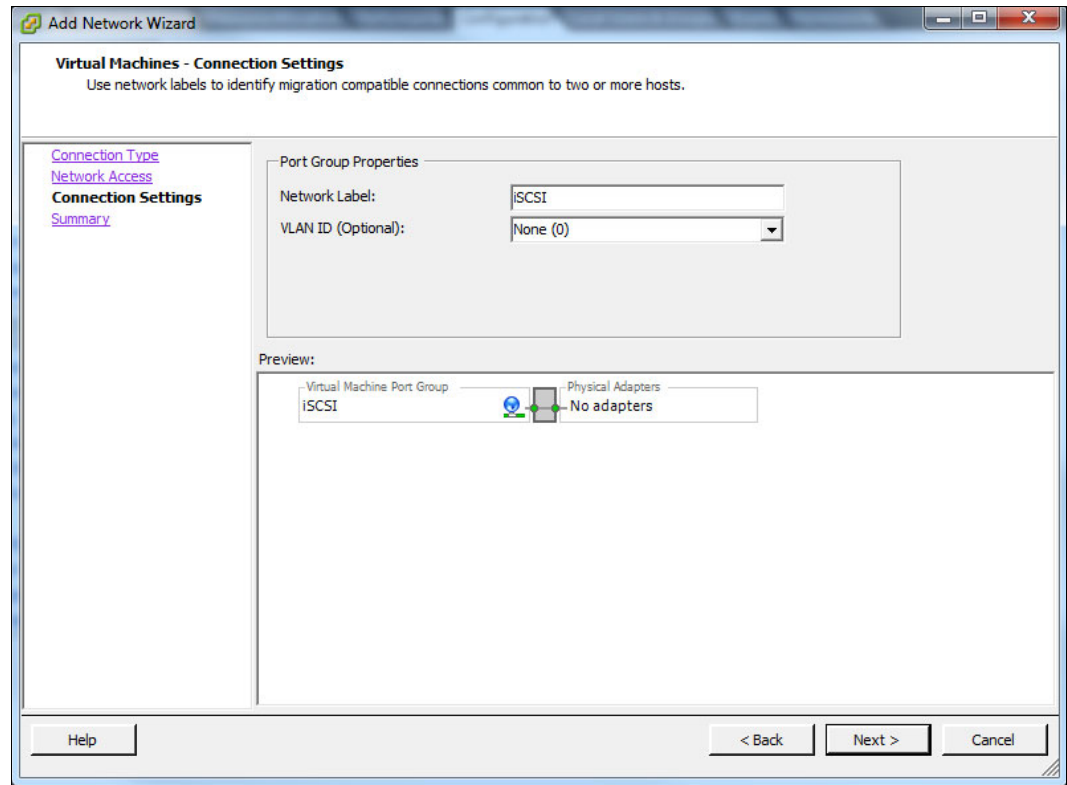

Figure 7-36 Virtual Machines: Connection Settings
- Under Port Group Properties, enter the network label and optional VLAN ID, if you are using VLANs, for the port group, as shown in Figure 7-36, and click **Next**.